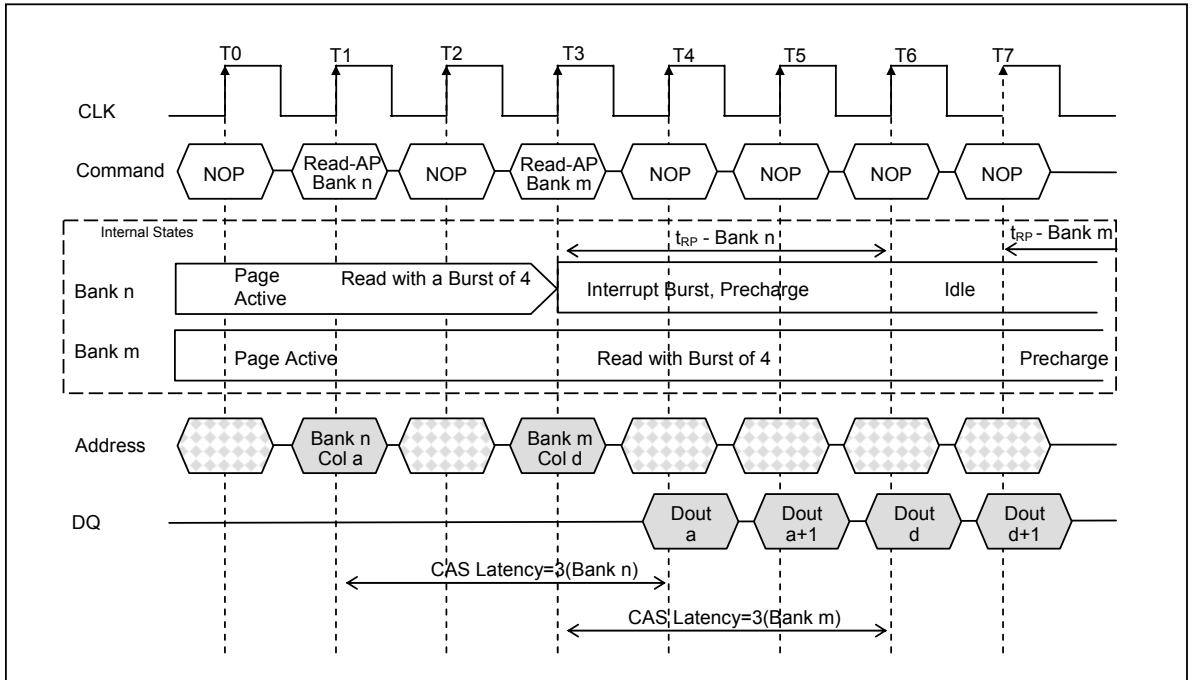

Figure 25. Read with Auto Precharge Interrupted by a Read(CAS Latency =3)
1. Interrupted by a Read (with or without auto precharge): A read to bank m will interrupt a Read on bank n, CAS latency later. The precharge to bank n will begin when the Read to bank m is registered. (Figure 25.)